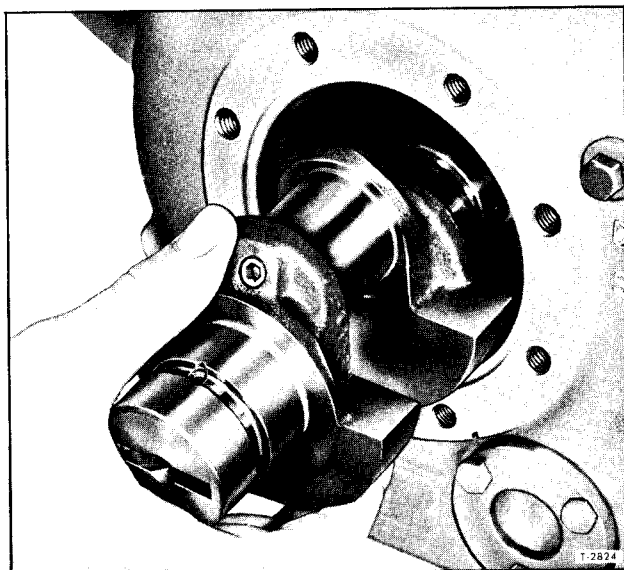

Figure 43—Replacing Crankshaft
1. The crankshaft (14) is removed through the bearing head opening. Grip the crankshaft at the end and through the handhole openings, slide the crankshaft out of the seal end bearing and out of housing (fig. 43).